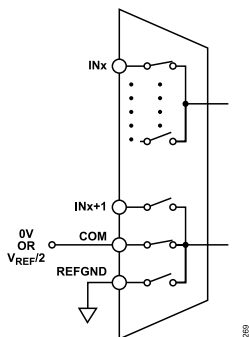

Figure 69. INx Paired with COM
- ▶ Figure 69, IN0 to IN15 paired with COM